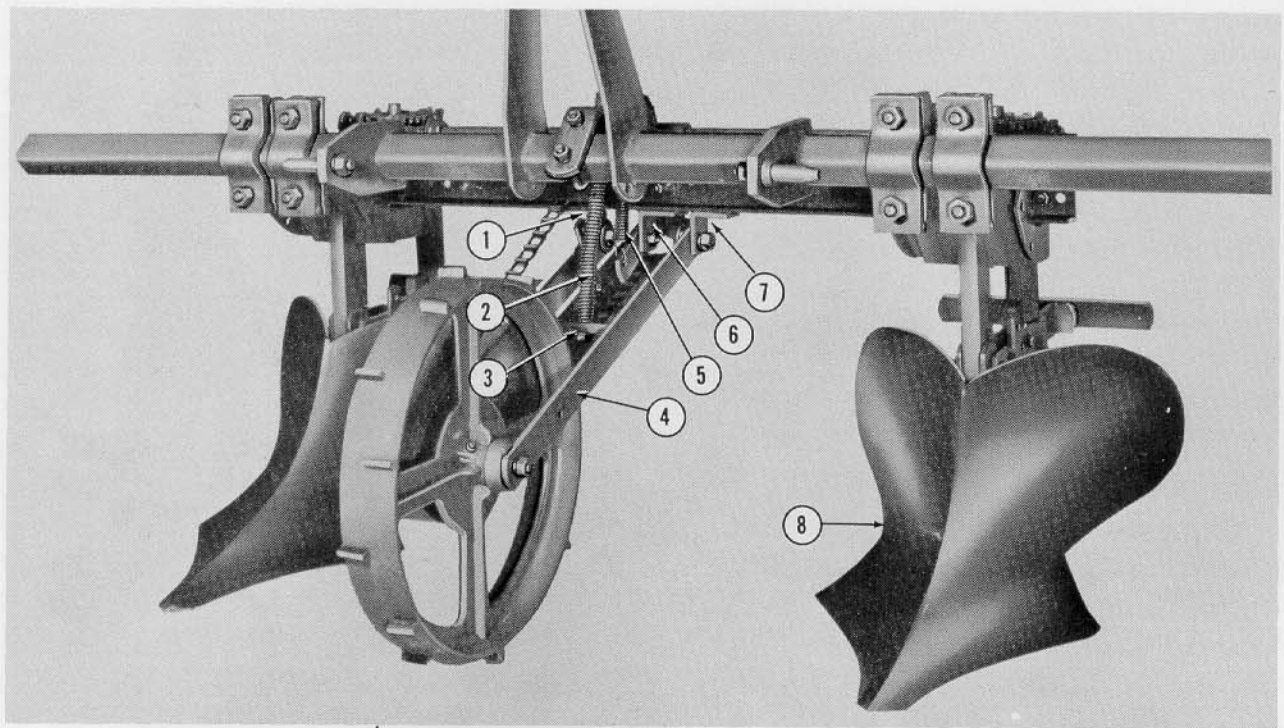
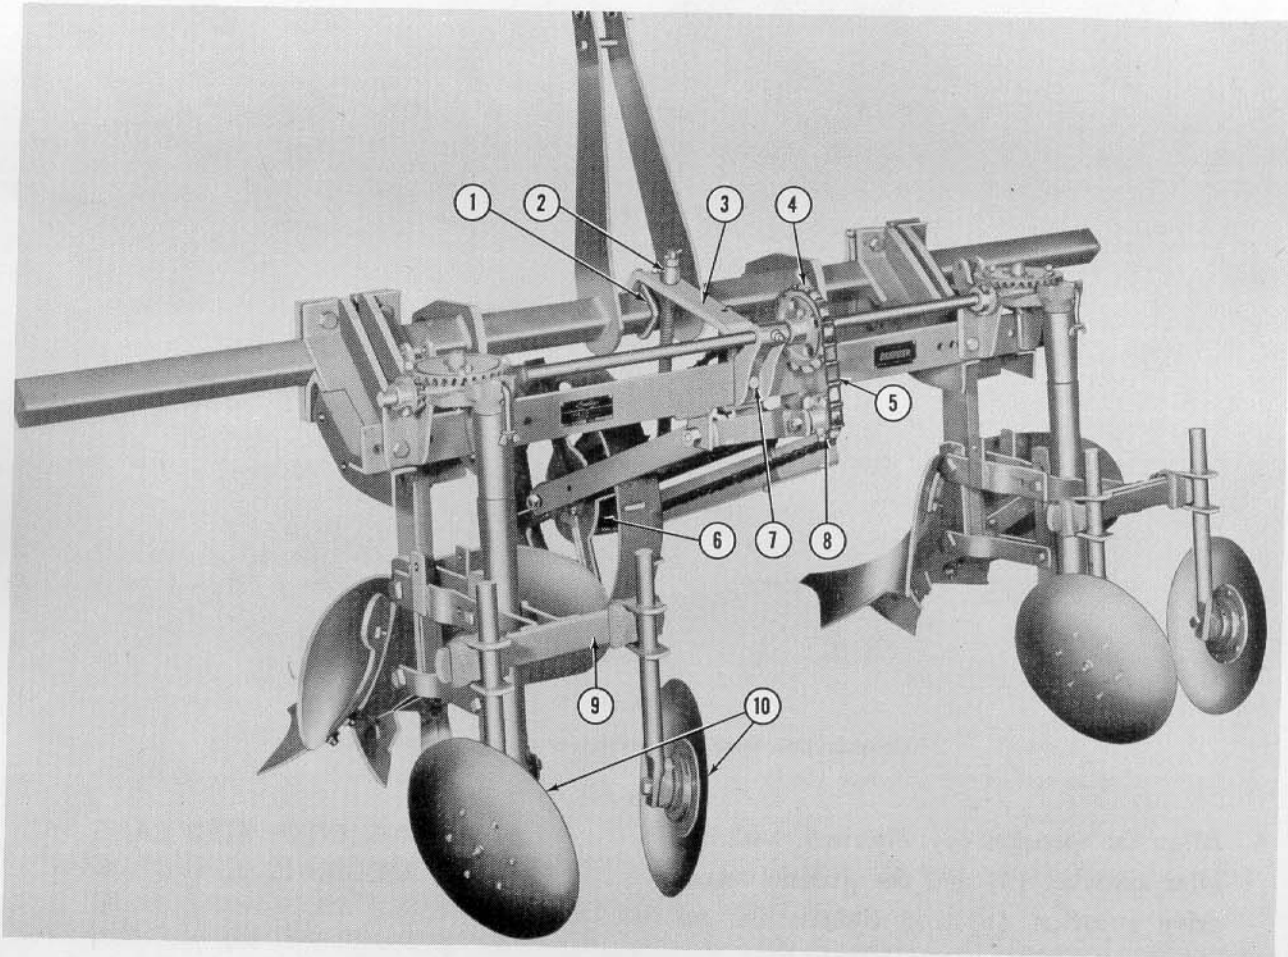

Figure 8
Figure 9
d. Set the implement in an upright position as shown in Figure 8.
4. Position the ground wheel as shown in Figure 8 with the frame (4) between the brackets (1) and (7).
a. Insert a spacer and bolt the right side of the frame to the right bracket (1), Figure 8.
b. Attach the long bracket of the ground wheel idler to the right side of the center bracket (6), Figure 8, and secure with lock washer and nut.
c. Align the idler left bracket and the left side of the ground wheel frame (4) with the bracket (7), Figure 8, and insert the spacer and bolt from the inside. Secure with lock washer and nut.
5. Bolt the spring rod support bracket (3), Figure 9, to the front of the mounting angle as shown, with the center bearing support bolt (7).
- a. Secure the forward end of the spring rod support bracket (3) to the center of the tool bar with the U-bolt (1), Figure 9. Figure 8 shows a front view of this attachment.
- b. Hook one end of the idler spring (5), Figure 8, on the forward end of the long idler bracket and the other end to the support bracket (3) as shown in Figure 9.
- c. Remove the nut from one end of the spring rod (2), Figure 8, and insert the rod through the hole in the ground wheel frame center support (3). Secure with large flat washer and nut.
- d. Remove the cotter pin, nut and set collar from the free end of the spring rod (2), Figure 8, and insert the rod through the hole on the support bracket (3), Figure 9.
- e. Raise the ground wheel so the rod will protrude above the support bracket (3), Figure 9, and secure with set collar, nut and cotter pin (2) as shown.
6. Align the sprocket (4), Figure 9, with the idler sprocket (8) and the ground wheel drive sprocket (6) and tighten the set screw securely.
- a. Attach the No. 32 chain (5), Figure 9, to the drive sprocket (6), driven sprocket (4) and idler sprocket (8).
7. Attach two disc coverers (10) to the support (9) of each covering assembly as shown in Figure 9.
The working depth of the furrow opener or general purpose bottoms (8), Figure 8, is controlled by the Ford Tractor Hydraulic Touch Control Lever. To obtain the proper suck for listing, the tractor top link should be set as
The disc coverers (10), Figure 9, may be moved in or out on the support (9), raised or lowered, and set at the desired angle by loosening one bolt on the clamp. To avoid throwing fertilizer
directly on the seed, attach the two outside disc coverers with the clamps reversed so the disc shanks are in front of the support (9), Figure 9. In this position the outside discs will throw soil on the seed first and the inside discs will follow up with a mixture of fertilizer and soil. If it is desired to leave the fertilizer alongside the seed, remove the two inside disc coverers.